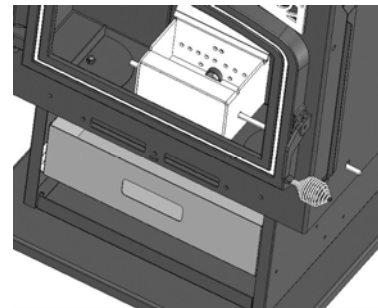

Figure 1
- D. Clean burn pot, check for blocked air holes. Set aside for later re-installation. Figure 1.